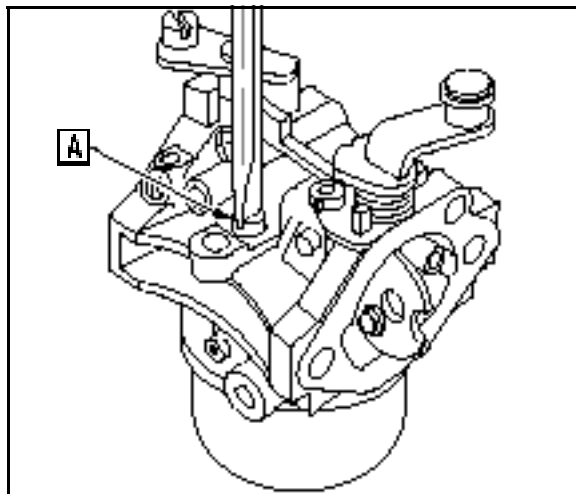

Fig. 99
7. Remove the pilot jet (A) with Screwdriver # 19062, Fig. 99.